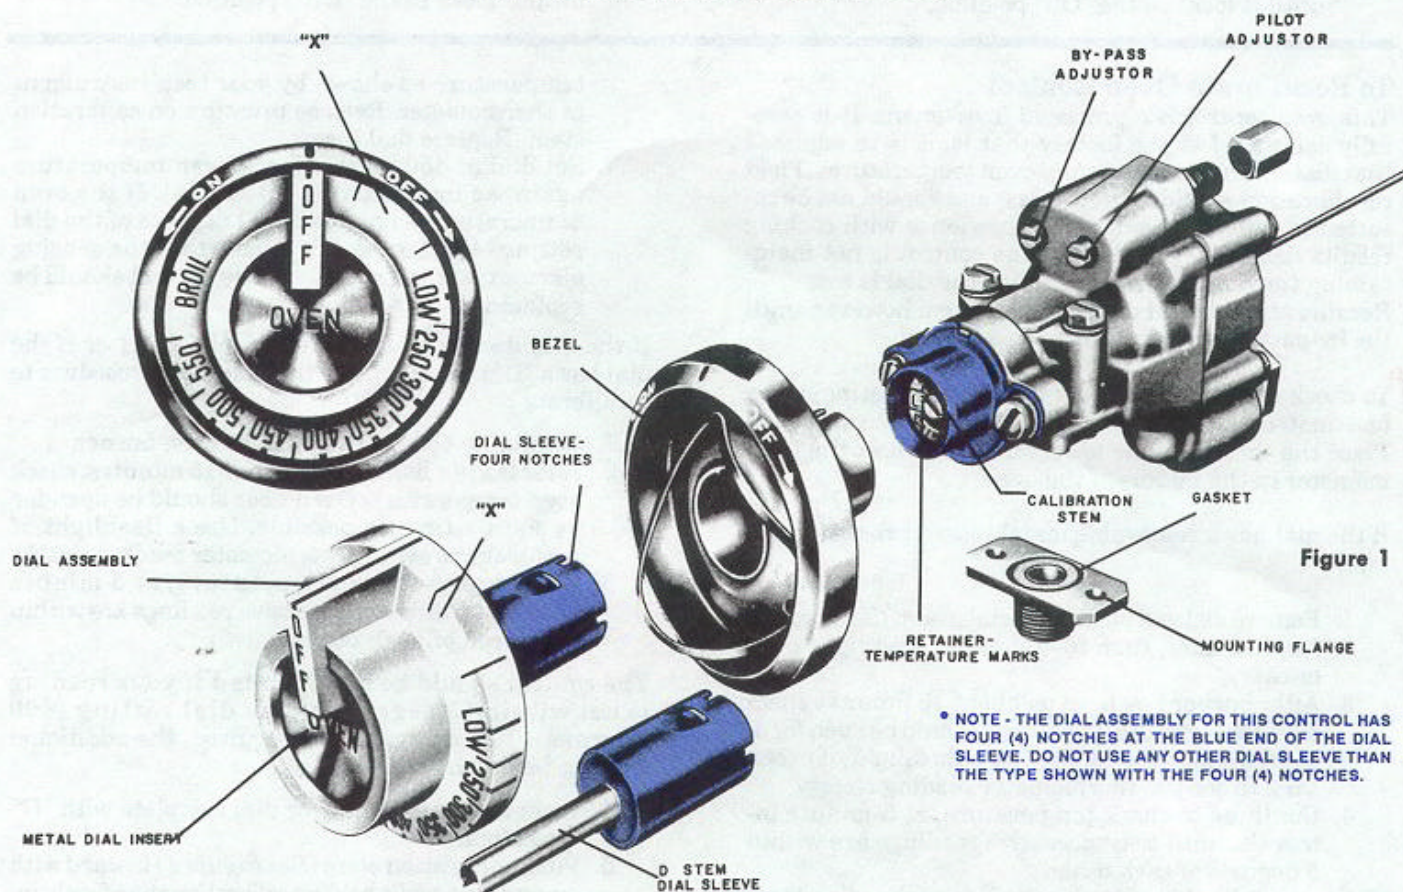

Figure 1
### ADJUSTMENTS - (See Figure 1)
1. Remove dial and push out metal insert. *(See Figure 1)*
5. Hold dial firmly, insert screw driver through center of dial, and push calibration stem (See Figure 1) inward. *(Do not turn this stem)*
When the oven reaches the temperature at which the dial is set, the oven control cuts down the flow of gas to the amount required to keep the oven at that temperature. Always, however, the control must by-pass enough gas to keep the entire burner lighted. To maintain this minimum flame, the *by-pass must be set carefully and accurately, as follows - (See Figure 1)*
5. Push calibration stem (See Figure 1) inward with screw driver, while holding calibration stem firmly in, turn slot clockwise to obtain a lower temperature or counter-clockwise for a higher temperature. Each mark on retainer represents 25 degrees. Replace dial assembly or "D" type stem with dial.
6. Set dial at 450 mark. Check oven temperature again, as instructed in (2) and (3). If the oven temperature is not within 20 degrees of the dial setting (450 degrees), it means that the sensing element is inoperative and the control should be replaced.